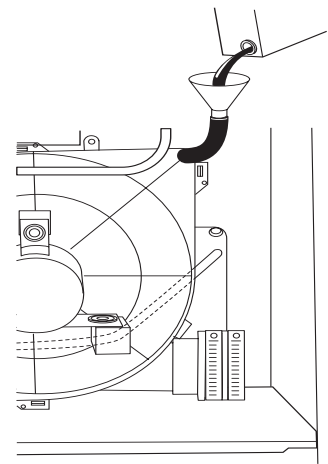

Fig. 39 - Pour Antifreeze
7. Pour 1 quart of antifreeze into funnel/tube. Antifreeze should run through inducer housing, overflow condensate trap, and flow into open field drain. (See Fig. 39.)